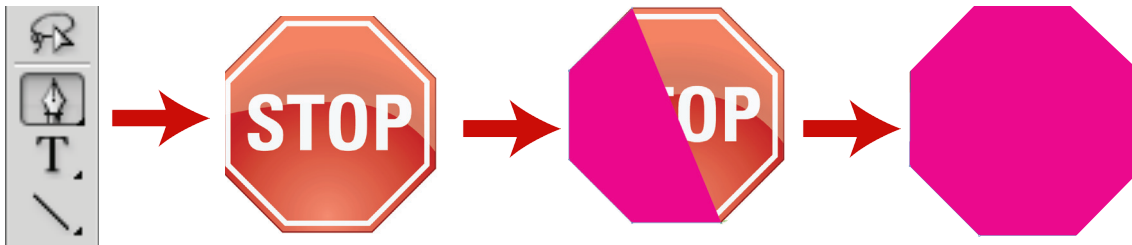

Figure 1
3. Draw your cut path using the box/ellipse, pen, or pencil tool. Make sure that you close all paths because you will assign the spot color either as a fill or as an outline (Figure 1).